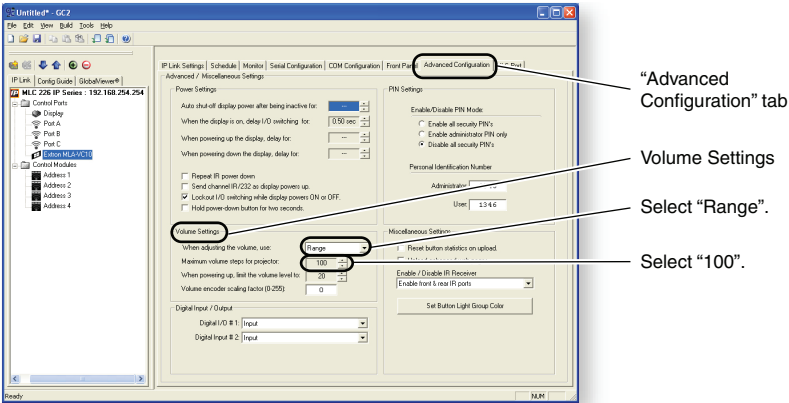

Figure 3-3 — Configuring the driver
10. Select the **Advanced Configuration** tab in the right pane (see figure 3-3 on the next page).